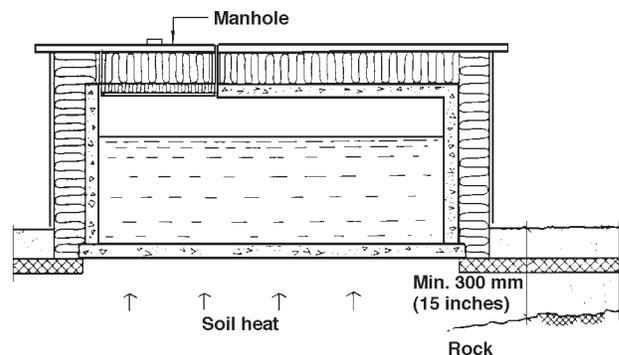
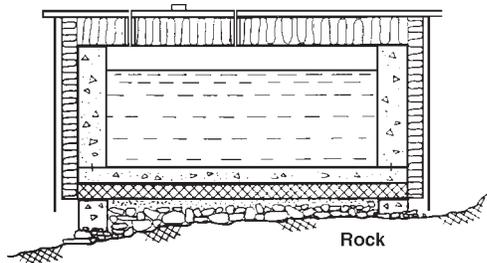
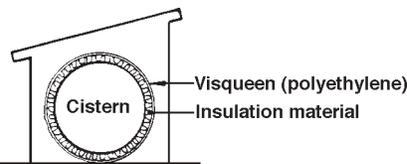

Figure 311
Figure 312a
Figure 312b
311 If the cistern is placed on the ground with the top surface exposed to open air, the walls and top must have extra insulation. If the bottom of the cistern is deeper than about 4 or 5 ft it can remain uninsulated. To avoid cold bridges and to maintain higher ground temperatures, insulation should be placed as shown in (Figure 311).
**312** If the cistern is placed on solid rock, significant warming by the soil is not likely and the bottom must usually be insulated (Figure 312a). If the cistern cover is more than 8 to 10 square meters (80 - 100 sq ft) it may be advantageous to insulate as shown in figure 311. Boards of extruded polystyrene are recommended for this application because they resist moisture and normal loads. As small a surface area as possible is recommended. Cylindrical cisterns should be insulated with batt insulation (Figure 312b).